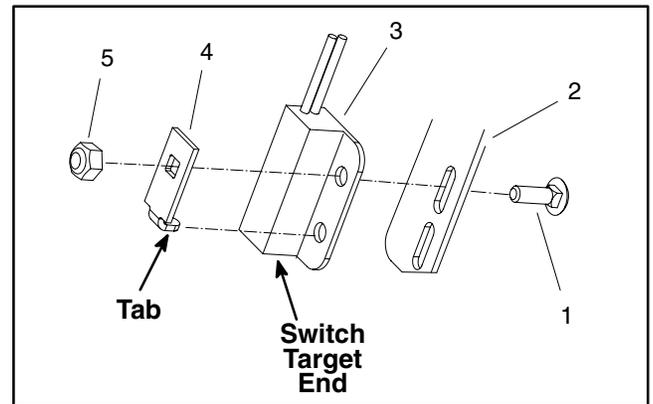

Figure 32
The ProCore 648 uses six (6) identical proximity switches. These switches are normally open switches that close when a sensing plate is positioned near the target end of the switch (Fig. 32).
When installing a proximity switch to the machine, place tab on switch plate into switch mounting hole nearest target end of switch (Fig. 32). Secure proximity switch and switch plate to switch mount with carriage screw and lock nut.